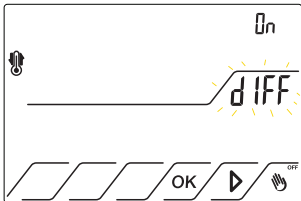

Fig.15
7.1.7 Press OK to confirm. Fig.15
7.2.1 Repeat the steps 7.1.1-7.1.4. Fig.15
7.5.1 Repeat the steps 7.1.1 -7.1.4. Fig.15